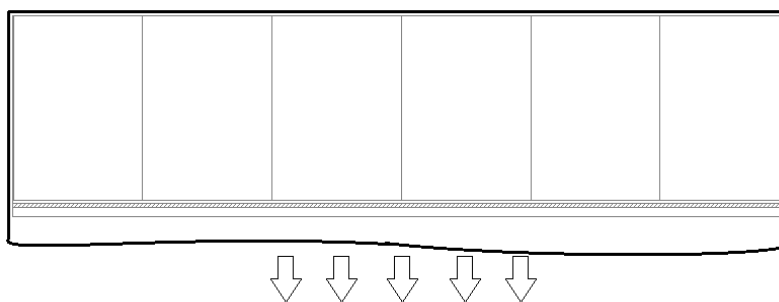
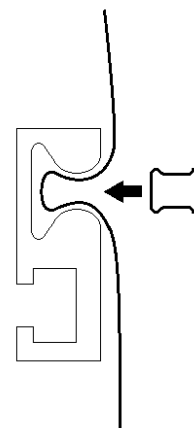

Fig119
Fig120
- **STEP 2:** Tension the polythene down to the base/side rail on one side starting in the middle – This is best done with one person at a hoop either side of centre (**Fig119**). Do not over tension, but when the cover is smooth from the ridge down to the rail, insert one of the plastic 'U' profiles into the cover slot on the rail (**Fig120**). A rubber hammer is preferred for this job as standard metal ones may crack the plastic profile. Work your way out to the ends using this method. Once the full side has been fixed using 'U' profiles, insert **Grey** plastic 'T' profiles into the 'U' profiles to secure.